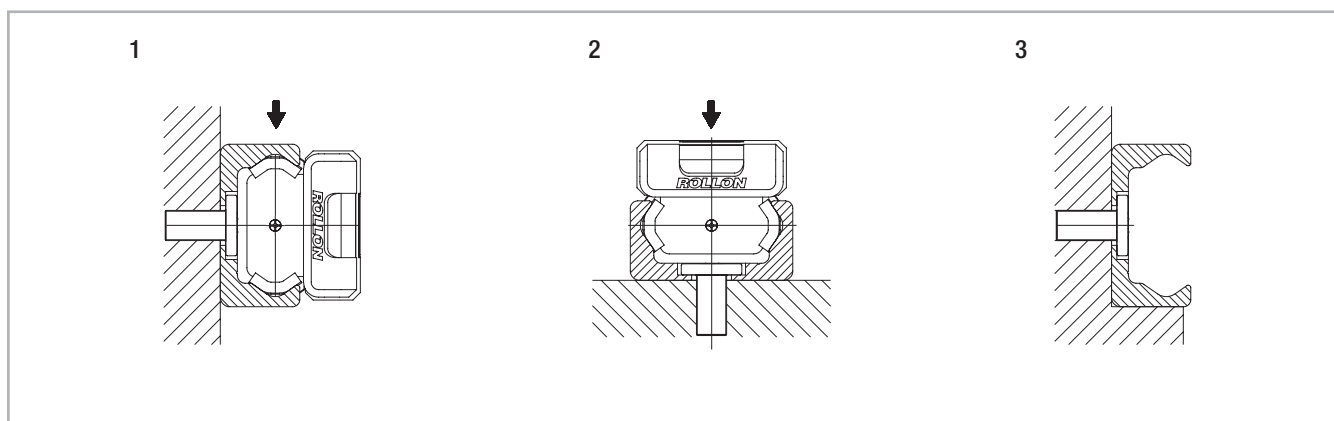

Fig. 155
The T- and K-rails can be installed in two positions relative to the external force. For axial loading of the slider (fig. 155, pos. 2), the load capacity is reduced because of the decline in contact area caused by the change in position. Therefore, the rails should be installed in such a way that the load on the rollers acts in the radial direction (fig. 155, pos. 1). The number of fixing holes in the rail in combination with screws of property class 10.9 is dimensioned in accordance with the load capacity values. For critical applications with vibrations or higher demand for rigidity, a support of the rail (fig. 155, pos. 3) is advantageous.